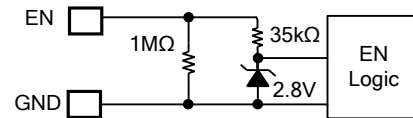

Figure 2: Zener Diode between EN and GND
Enable (EN) is a digital control pin that turns the regulator on and off. Drive EN high to turn on the regulator. Drive EN low to turn off the regulator. An internal $1M\Omega$ resistor from EN to GND allows EN to be floated to shut down the chip. EN is clamped internally using a 2.8V series Zener diode (see Figure 2). Connecting the EN input through a pull-up resistor to V_{IN} limits the EN input current below $100\mu A$, preventing damage to the Zener diode. For example, if a $100k\Omega$ pull-up resistor is connected to 12V V_{IN} , then $I_{Zener} = (12V - 2.8V) / (100k\Omega + 35k\Omega) = 68\mu A$.